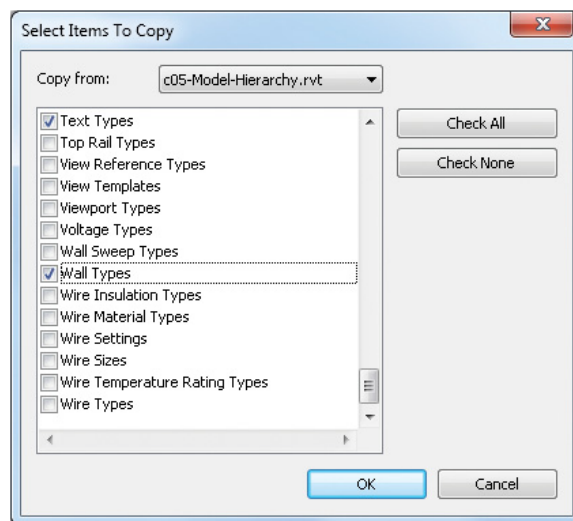

FIGURE 5.4 Selecting system families to transfer between projects
3. In the Select Items To Copy dialog box, click the Check None button, and then select Text Types and Wall Types from the list, as shown in Figure 5.4. Make sure c05-Model-Hierarchy.rvt is shown in the Copy From drop-down in this dialog box. It is important to verify this if you have more than two project files open.